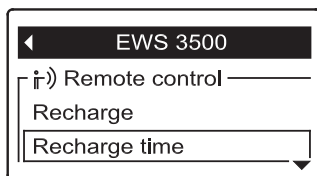

FIG. 62
3. Press the DOWN (▼) button to scroll through the menu options until **Recharge time** is highlighted in a box (See Figure 62).